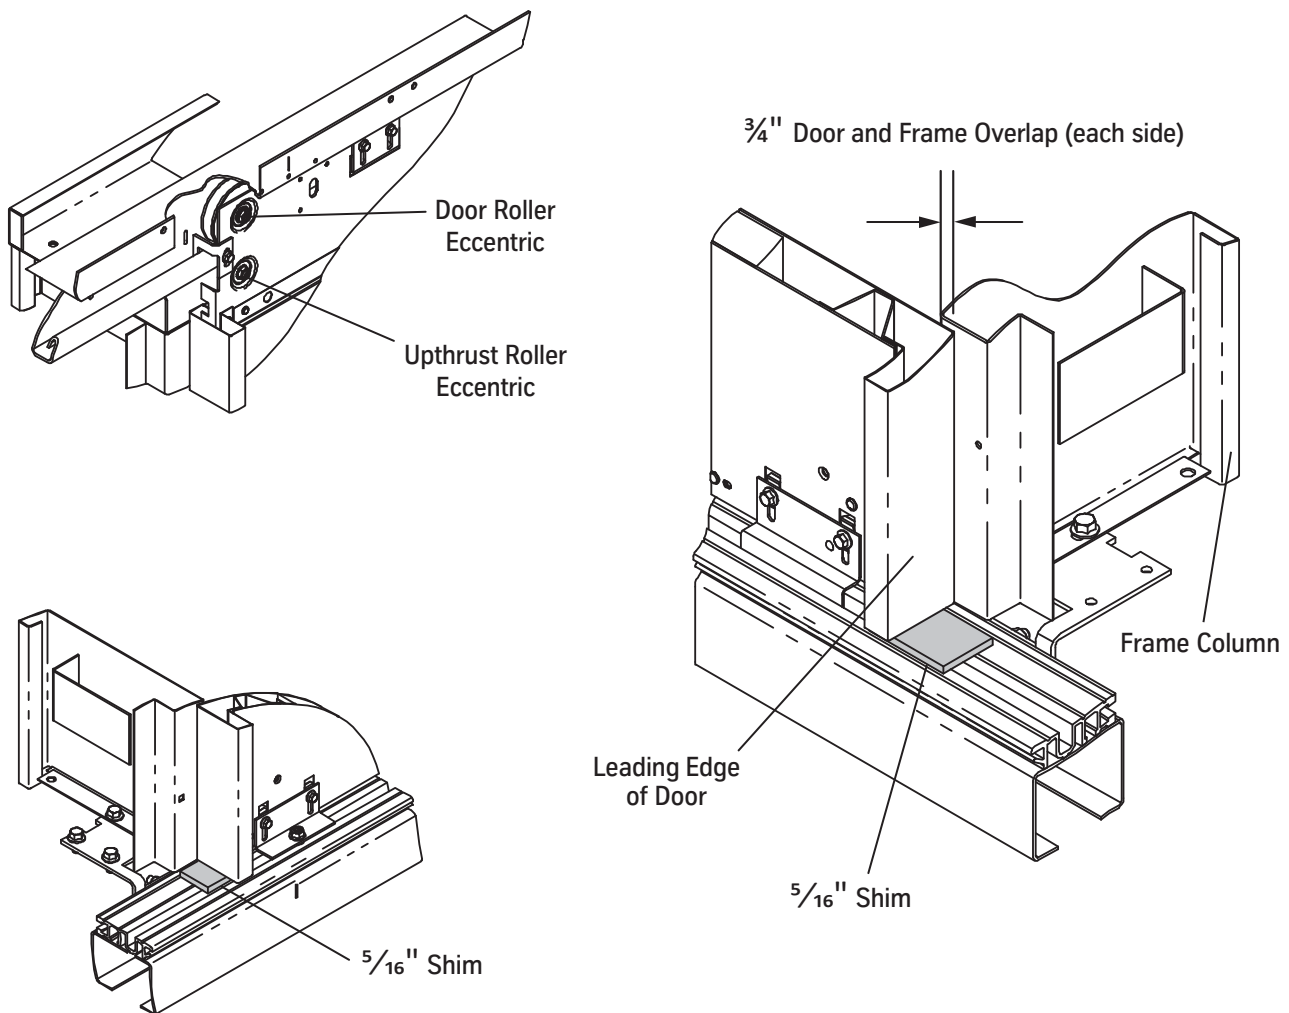

Figure 61 - Adjust Door to Sill Running Clearance
1. Place a $\frac{5}{16}$ " shim (running clearance) underneath the leading edge of the door. See Figure 61.